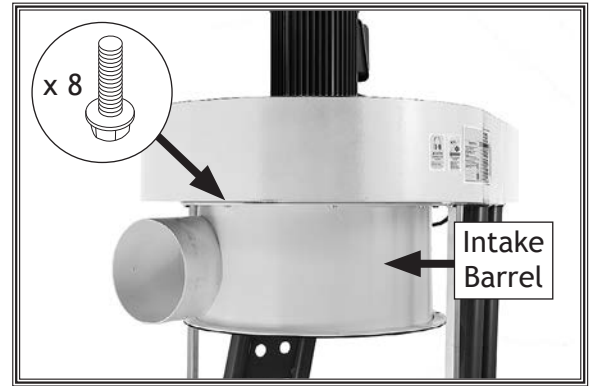

Figure 15. Intake barrel attached to impeller housing.
9. Have an assistant align intake barrel so dust port points straight out from impeller housing (see Figure 15), then attach to impeller housing with (8) $\frac{5}{16}$ "-18 x $\frac{1}{2}$ " flange bolts.